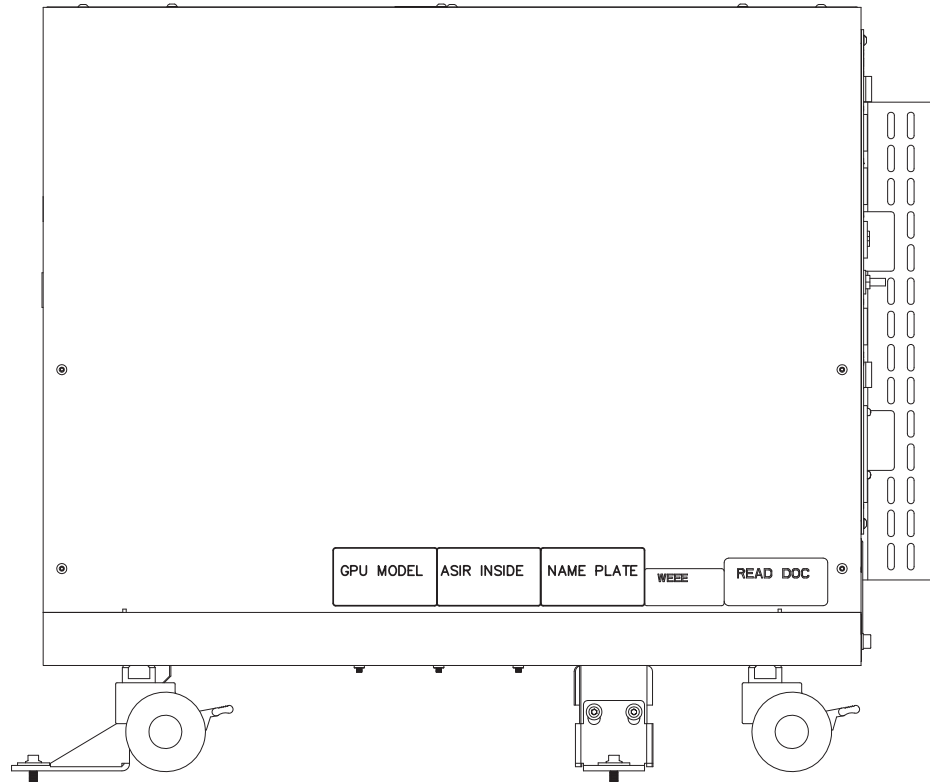

Figure 4-21 Attach GPU Rating Plate
- 3.) Attach the name plate near the rating plates on the right side cover of console. See Figure 4-21